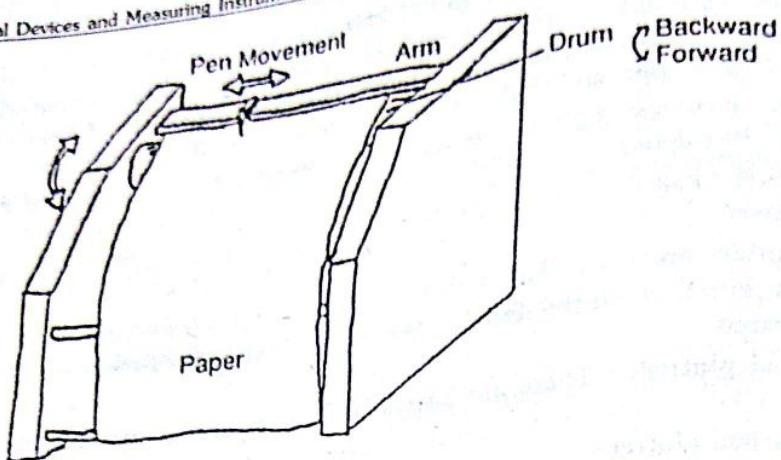

Fig. 2.23 Drum plotter
**2. Drum plotter :** A drum plotter is shown in Fig. 2.23. In this case the paper is mounted around a drum. The paper interlocks with sprocket pins on the drum and there may be a vacuum chamber to hold the paper in place, the drum drives the paper backwards and forwards past a pen that is mounted on a stationary track. The pen is driven along the track on a carriage to complete the positioning mechanism. The advantage of drum plotter is to use to paper of long length. The roll of paper is often 50 meter long. The complete unit is quite compact. The paper cutter is used to cut the paper.